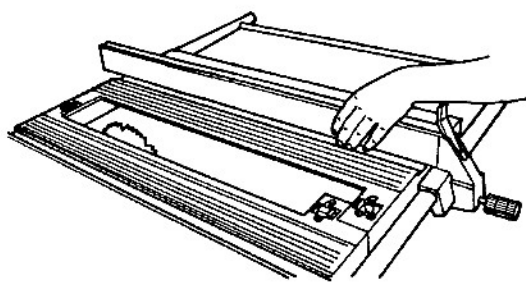

Fig. C-9
15. Mount the fence on the table and align the front section of the fence with the edge of the miter slot so they are even or flush, as illustrated in Fig. C-9.